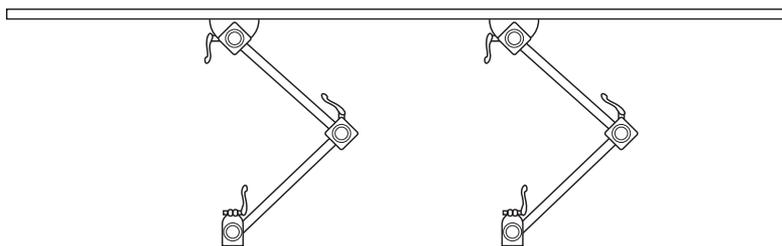

Figure 6-18. Position of L-bars
3. Bend the L-bars so they are aligned in the same position and fold inwards so they are close to the paver (Figure 6-18). Make sure the clamp handles are loose so the bars can move.